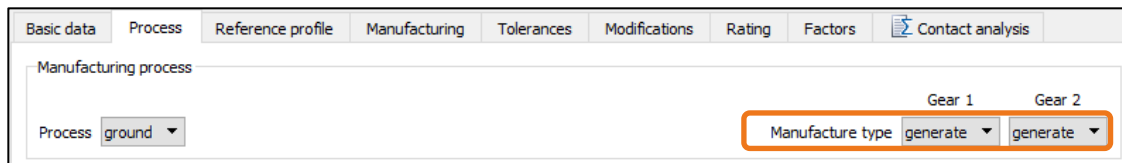

Figure 27. «Manufacturing process» for cyclo-palloid gears
11. In the «**Process**» tab, under «**Manufacturing process**», the «Generating process» is selected automatically because cyclo-palloid gears are always generated (see Figure 27)